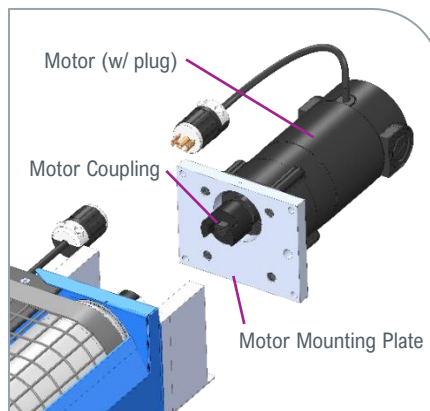

**Figure 3.** Remove Motor Mount Plate Cover
2. Remove the Motor Mount Cover Plate and M4 x 8mm screw (Figure 3). Set aside for later use.